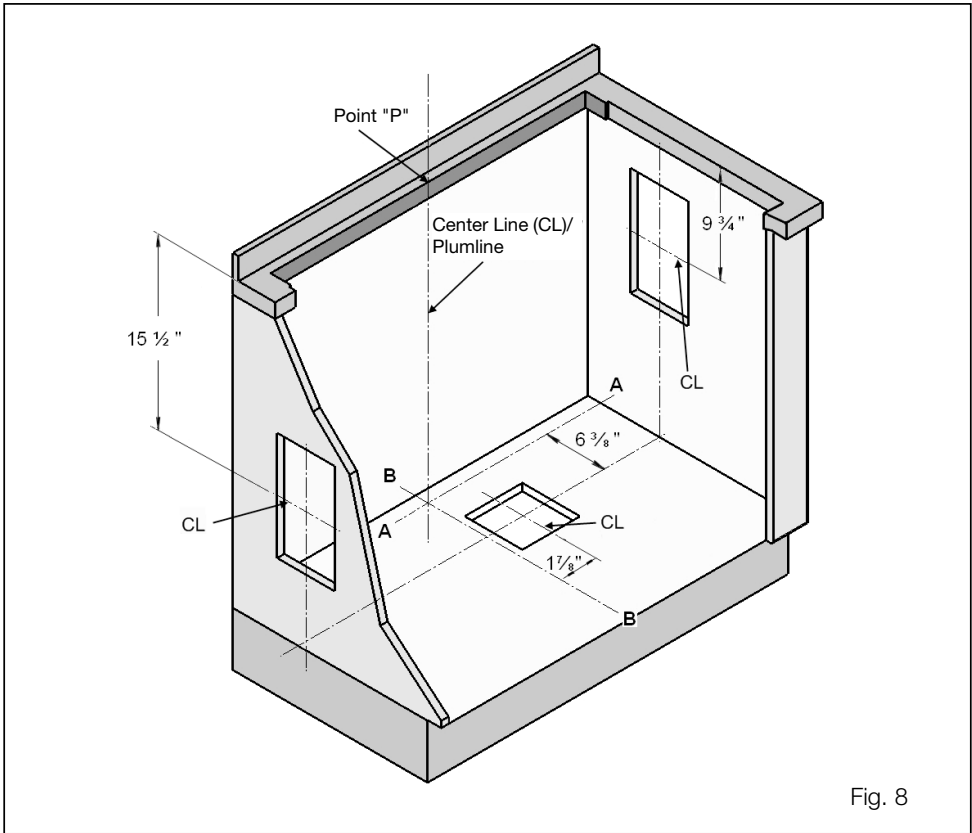

Fig. 8
- A. Refer to Figure 8. Drop a plumb-line from Point "P" at the rear center of the countertop cutout. Mark this point on the bottom of the cabinet below. Construct two reference lines through this point: one should be parallel to the cabinet front and directly below the rear countertop cutout (Line A-A), and the other (Line B-B) should be at right angles to A-A.
The receptacle should be located under the countertop so that the 30 inch long power cord from the vent will reach it. See Figure 8.